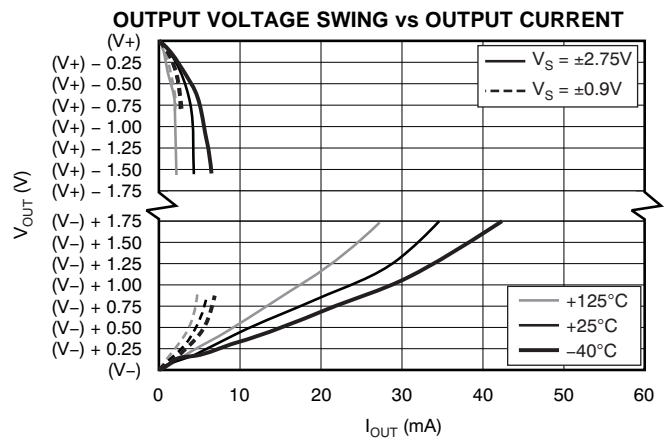

Figure 31.
(8) Does not include effects of external resistor R_G .
(9) See Typical Characteristics curve, *Output Voltage Swing vs Output Current* (Figure 31).
The INA333 can be used on single power supplies of +1.8 V to +5.5 V. Figure 37 illustrates a basic single-supply circuit. The output REF terminal is connected to mid-supply. Zero differential input voltage demands an output voltage of mid-supply. Actual output voltage swing is limited to approximately 50 mV above ground, when the load is referred to ground as shown. The typical characteristic curve *Output Voltage Swing vs Output Current* (Figure 31) shows how the output voltage swing varies with output current.